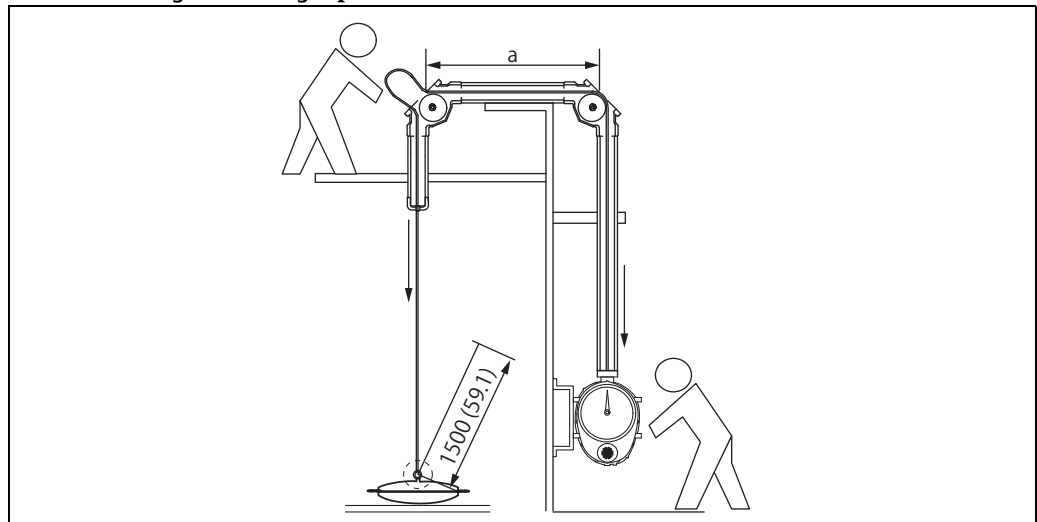

Figure 33: Measuring installation
3. Insert non-perforated end of the measuring tape into tank through 90° sheave elbow (refer to Figure 33).
12. Follow Figure 33 and tighten gland.